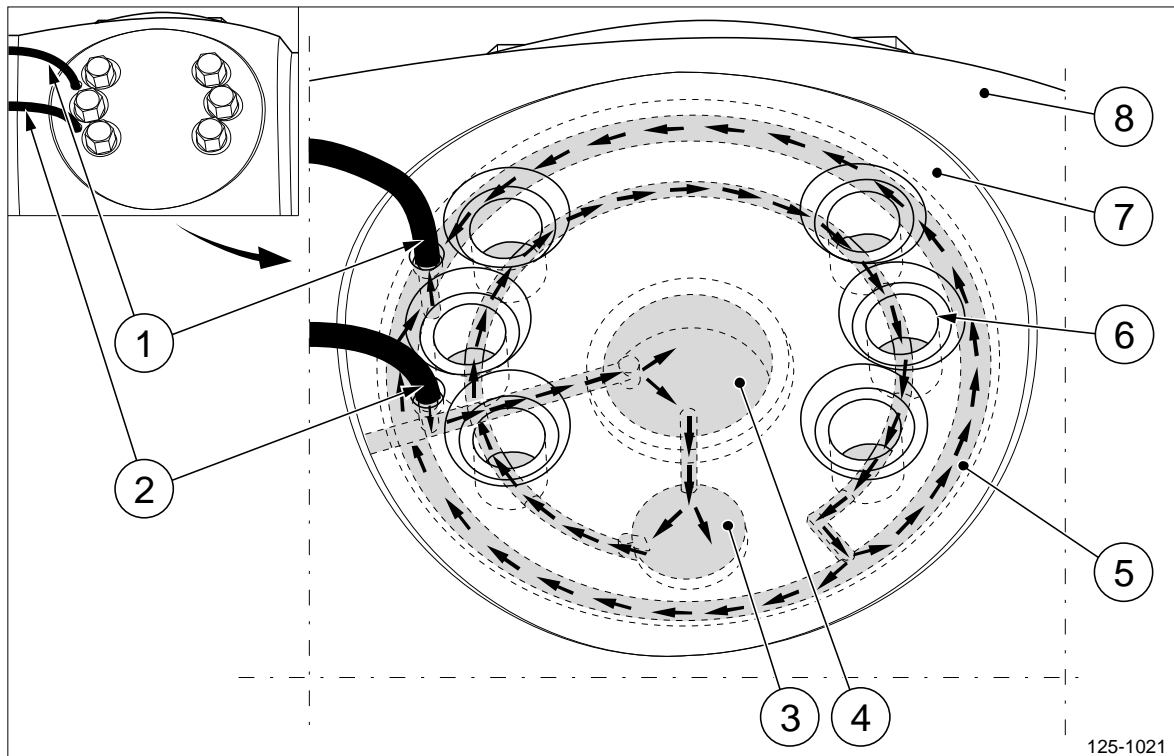

Figure 8 Flushing direction through the blade flange, G-design.
21. Connect the oil injection pump flushing nipple and hose (pos 2, figure 8) to connection marked "IN".
22. Connect the excessive oil container flushing nipple and hose (pos 1, figure 8) to oil connection marked "OUT".